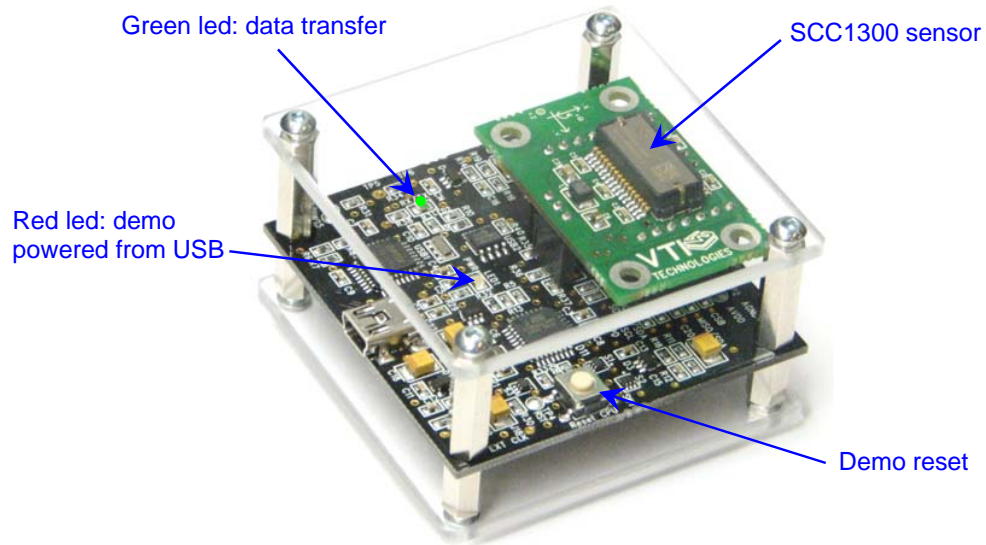
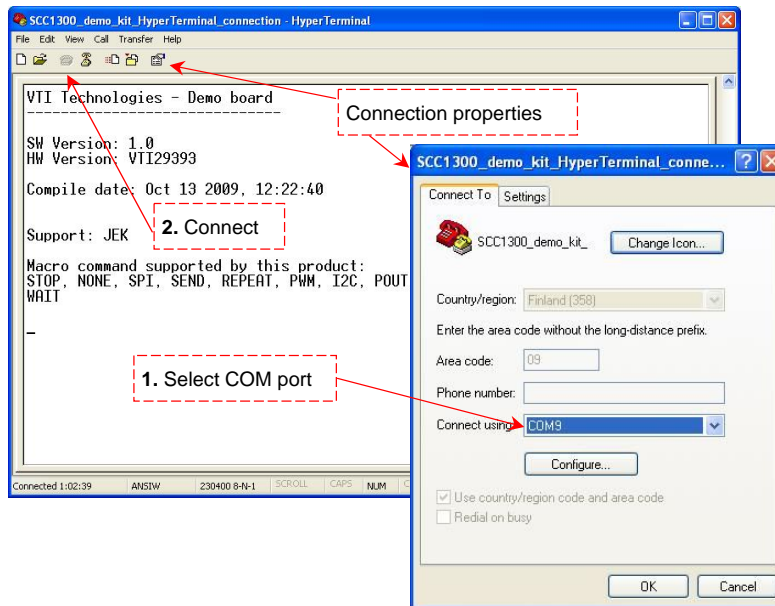

Figure 1. SCC1300 demo USB interface board and SCC1300 PWB.
Figure 9. Windows HyperTerminal with SCC1300 demo info text.
- SCC1300 sensor soldered on a chip carrier PWB (see Figure 1 on next page)
- USB interface card (see Figure 1 on next page)
The SCC1300 Demo Kit USB interface board (black PWB) and SCC1300 PWB (green PWB) are shown in Figure 1. The USB interface card converts the USB interface to SPI interface. SCC1300 sensor is soldered on PWB which is connected to interface board.
MCU can be reset by exiting from the GUI and then pressing the reset button (Figure 1) on USB interface board.
5. Press demo reset button (see Figure 1). SCC1300 Demo Kit sends an info text to HyperTerminal (see Figure 9). If the HyperTerminal software is unable to connect the SCC1300 Demo Kit or the info text does not appear,
until info text appears to HyperTerminal screen (see Figure 9).
- see if the info text appears on the screen (see Figure 9)→ if the info text is transmitted, the communication between the demo kit and PC is ok